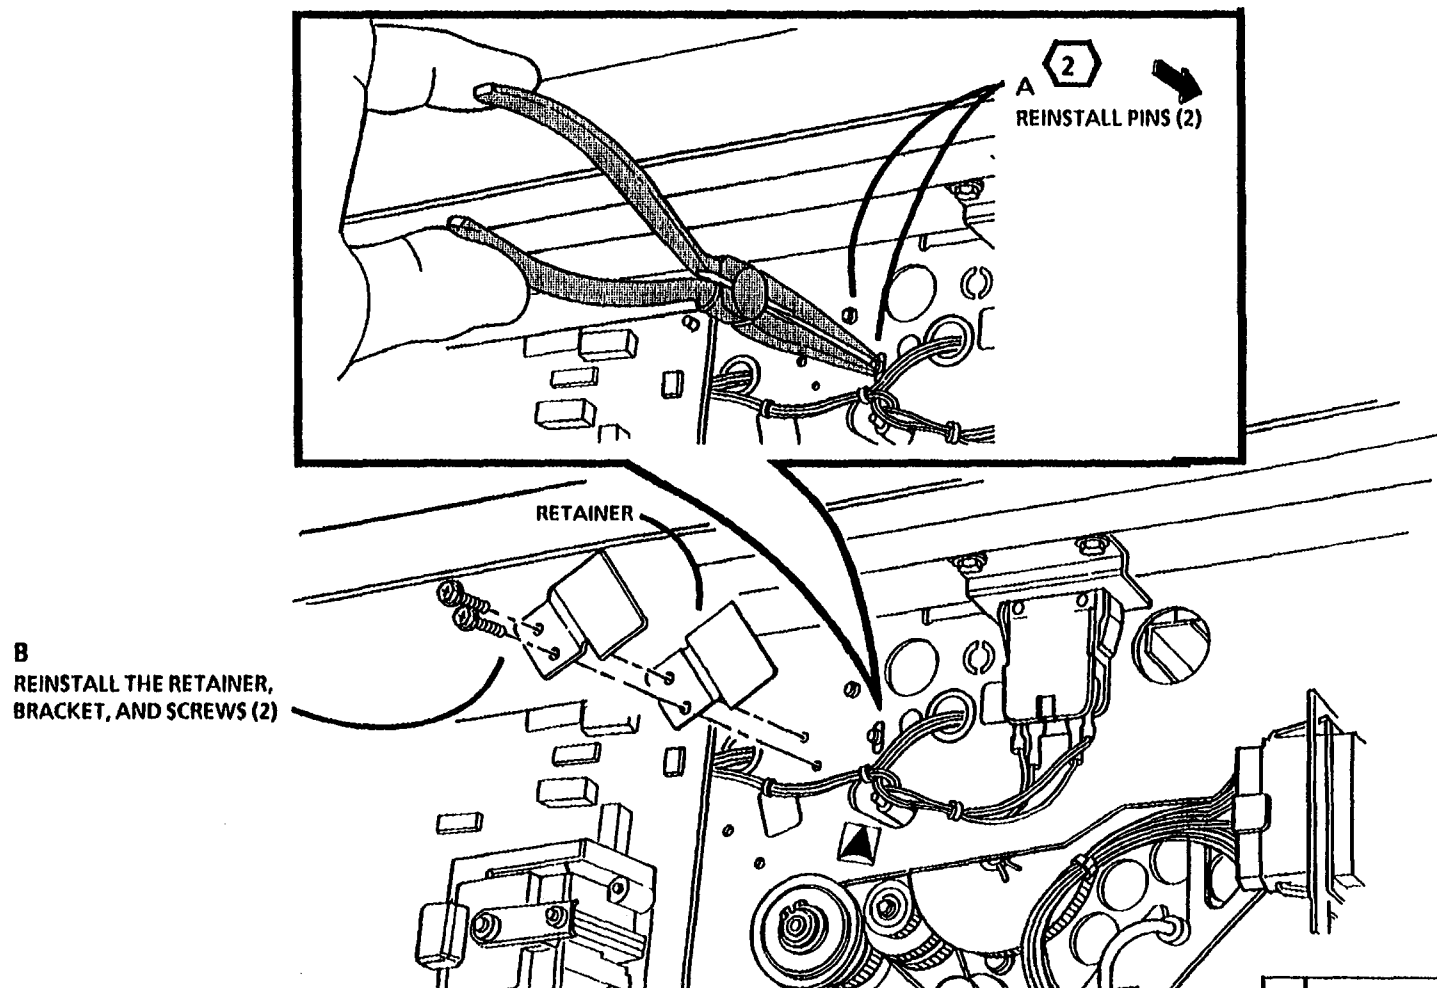

Figure 4. Reinstall the pins and the retaining clip
2. (Figure 4): Reinstall the pins and the retaining clip.